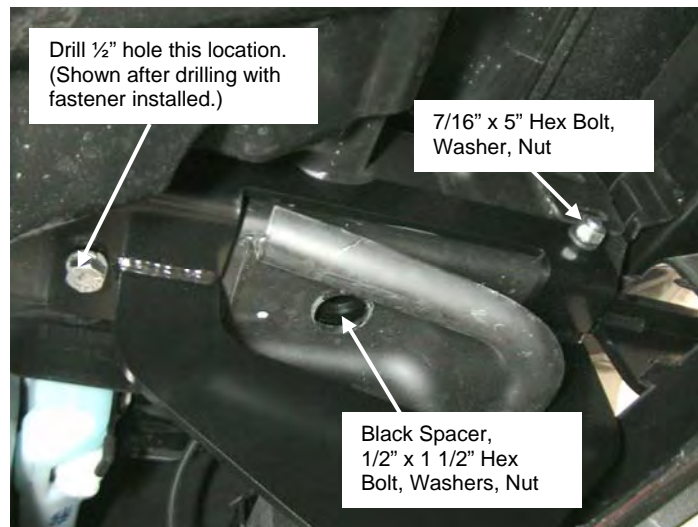

Figure 1 Placement of the Frame Bracket (Driver Side)
1. Install the bottom bracket temporarily on the passenger side frame using the 7/16" x 5" bolt and 7/16" lock washer and nut provided in kit. The bracket uses the same hole as the long bolt from the tow loop. Repeat for driver side frame. (See figure 1.)
7. Install a 1/2" x 1 1/2" bolt in the rear hole of each lower bracket. Use a 1/2" flat washer and 1/2" lock washer with each bolt. See figure 1.